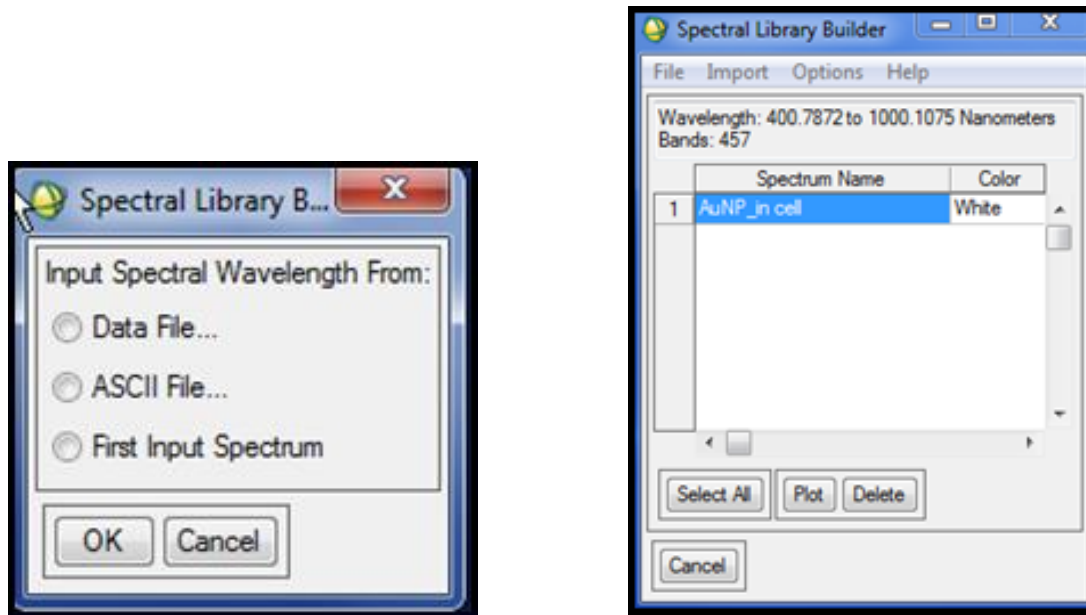

Figure 5.2d. Spectral library builder dialog windows
- In the plot window click and drag the label (AuNP_in cell) to the spectrum list in the Spectral Library Builder dialog (Figure 5.2d).